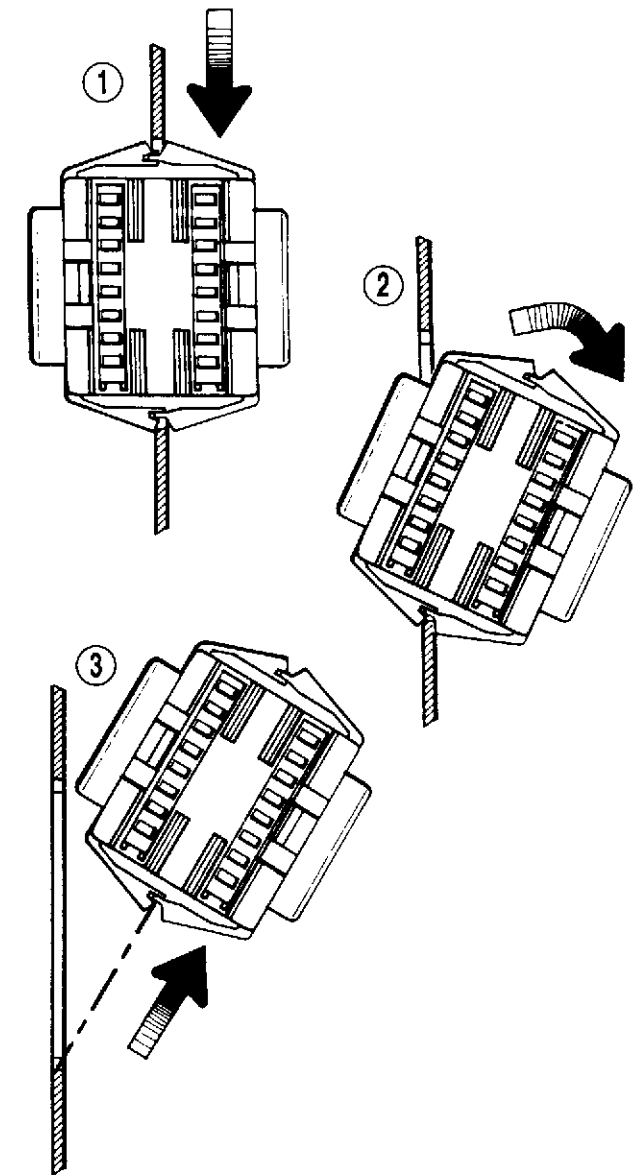

Figure 11
1. Push down on the junction box (to depress bottom latches) and at the same time, push down the top latches, to clear panel (see Figure 11).